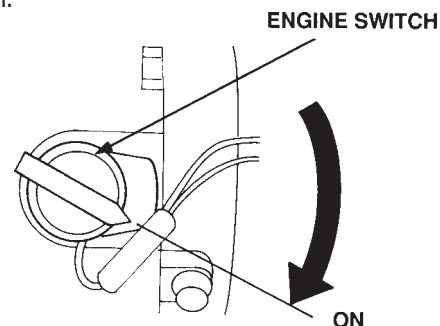

Figure 10. Engine ON/OFF Switch (ON Position)
5. Place the *engine ON/OFF switch* (Figure 10) in the "ON" position.